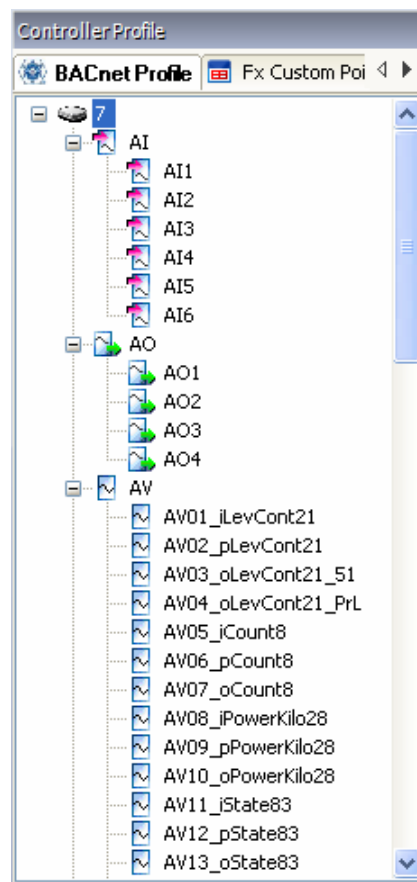

Figure 40: Profile View (Grouped by Point Type)
2. The Profile View populates with the objects defined in the BACnet network profile (Figure 40). FX CommPro BACnet tool groups points by their object name or by their object instance number.